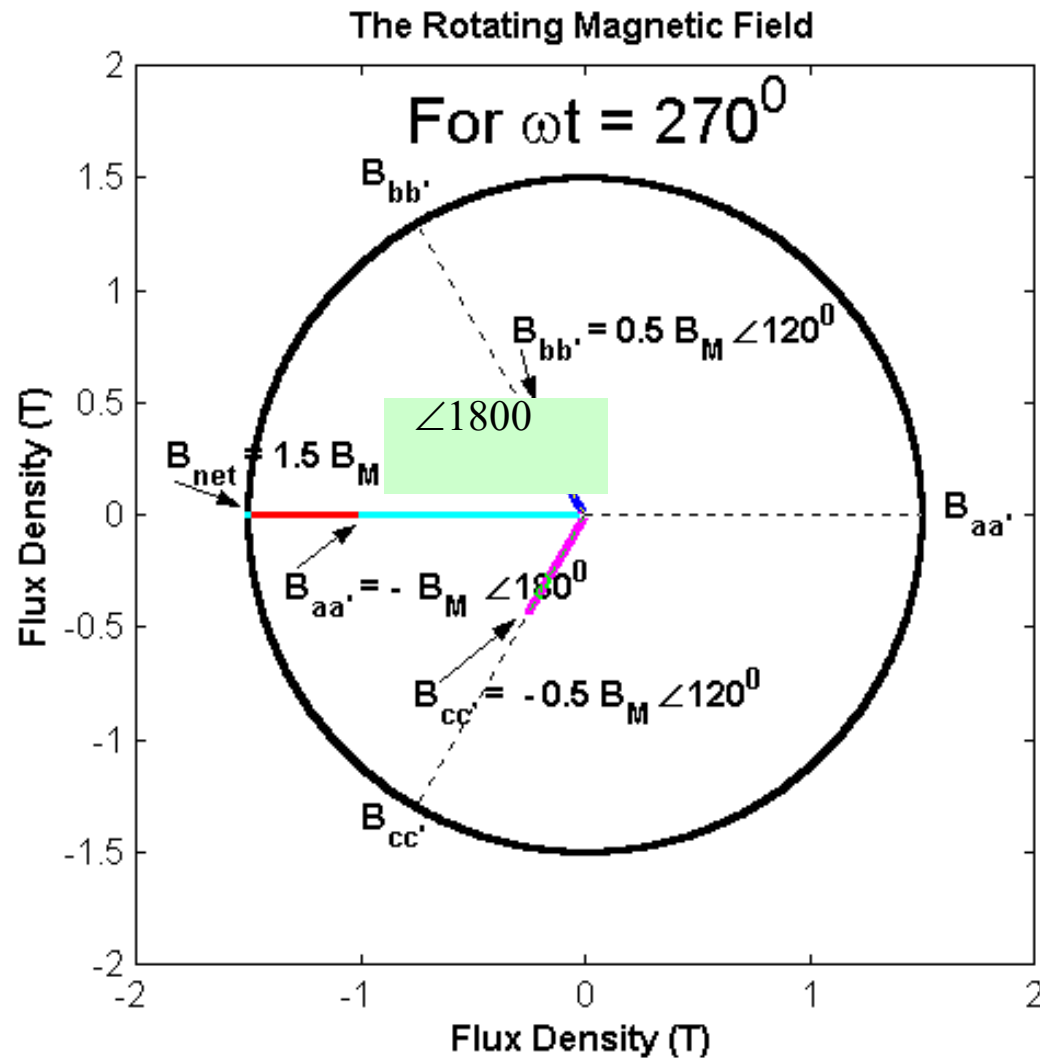

Figure 5.14(d): The net magnetic field vector for $\omega t = 270^\circ$
- The resulting net magnetic field is shown in Fig. 5.14(d).